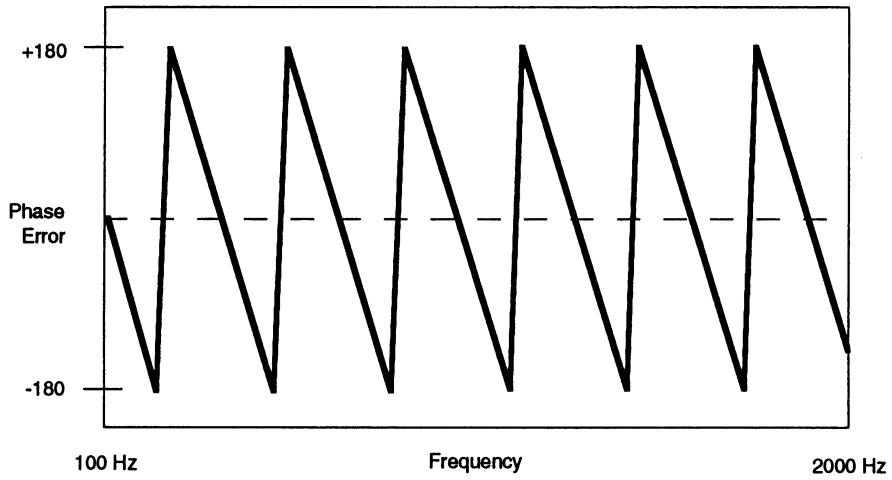
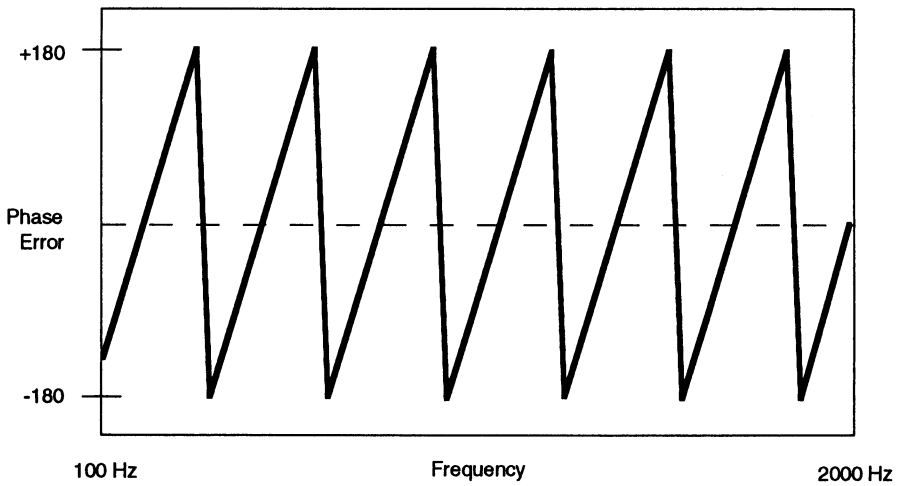

Figure 15. Example of Scope Trace with Too Much Delay
Figure 16. Example of Scope Trace with Too Little Delay
Step 2. For the channel under test, program the reference RDM and the RDM under test for 0 phase delay using the PON. A waveform with too much delay in the reference RDM resembles Figure 15. A waveform with too little delay in the loopback RDM resembles Figure 16. The trace has negative slope and multiple -180 and +180 phase reversals.